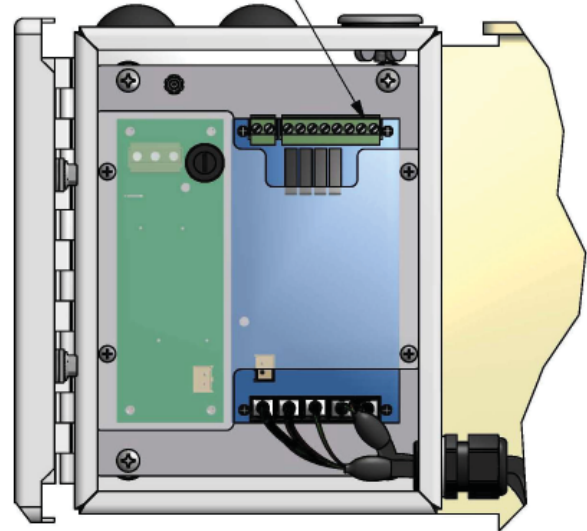

Figure 42: Jumper on Electrical Box
1. Open the control box cover and remove the electrical jumper located on terminal block X1. See Figure 42.